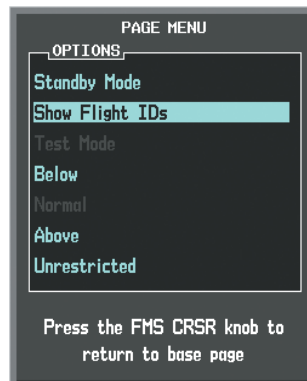

Figure 6-106 Traffic Map Page Menu
- 2) Turn the small **FMS** Knob to choose 'Show Flight IDs' or 'Hide Flight IDs' (choice dependent on current state) (Figure 6-106).